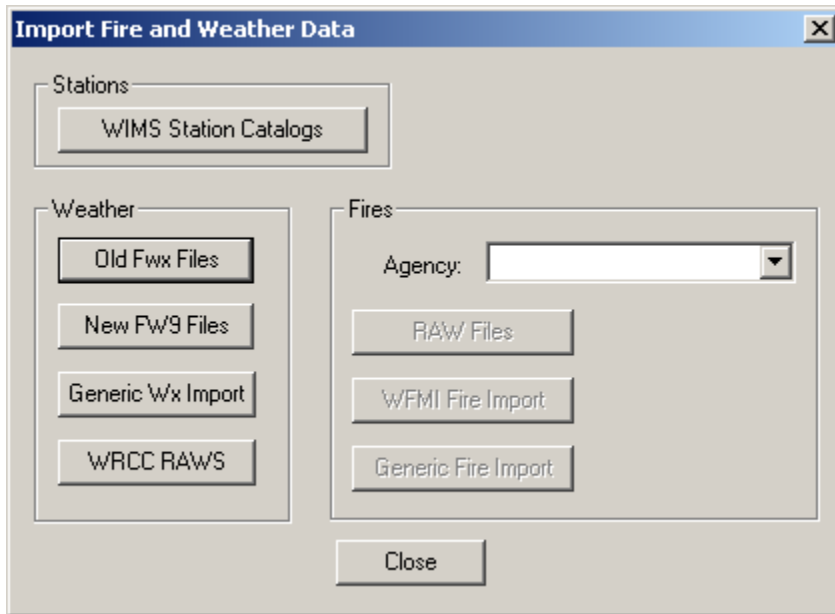

Figure 3-14—Import Fire and Weather Data form.
- 6) Import the station information and fire weather data by opening the **Import Fire and Weather Data** form (FFP menu bar→Data→Import, fig. 3-14).